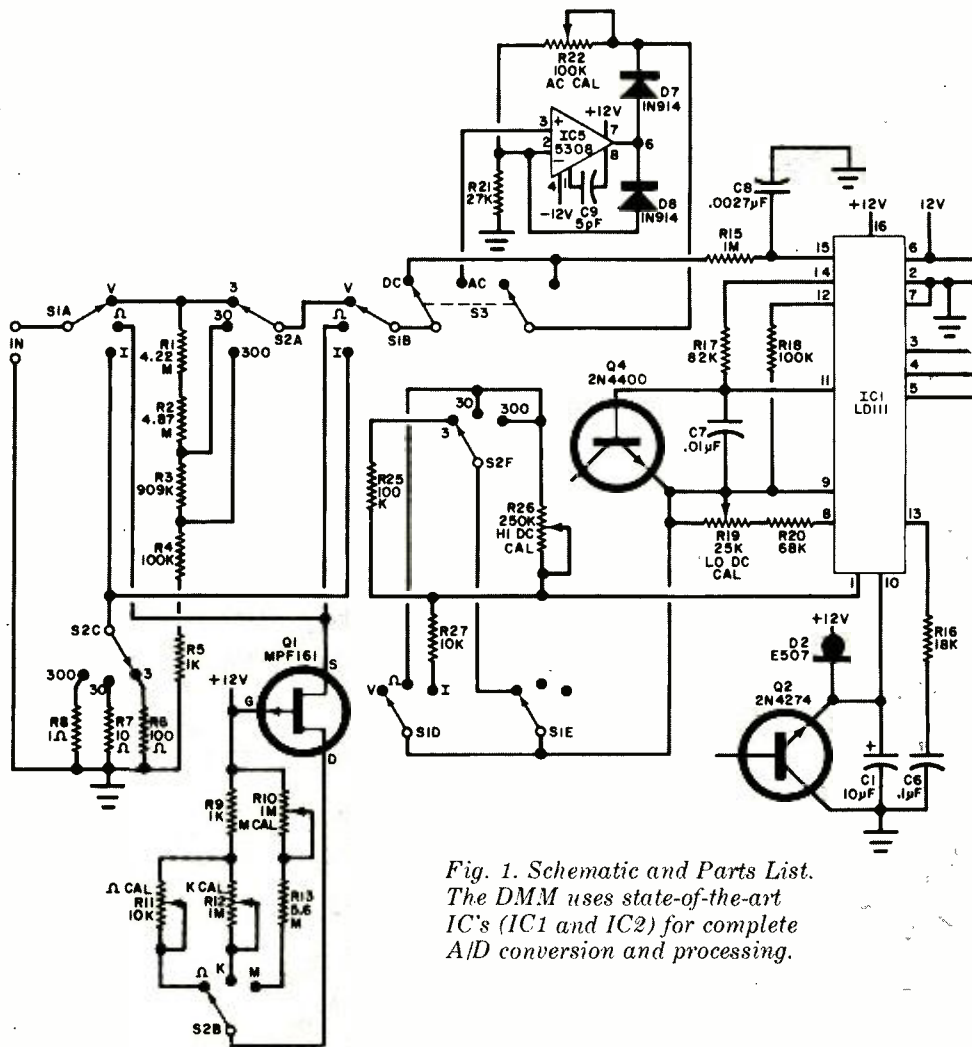

Fig. 1. Schematic and Parts List. The DMM uses state-of-the-art IC's (IC1 and IC2) for complete A/D conversion and processing.
**About the Circuit.** The complete schematic diagram of the DMM is shown in Fig. 1. The heart of the instrument is contained in IC1 and IC2, a pair of new PMOS LSI integrated circuits. The first is a monolithic bipolar analog processor, while the latter is a digital processor. These two IC's provide input buffering of the voltage to